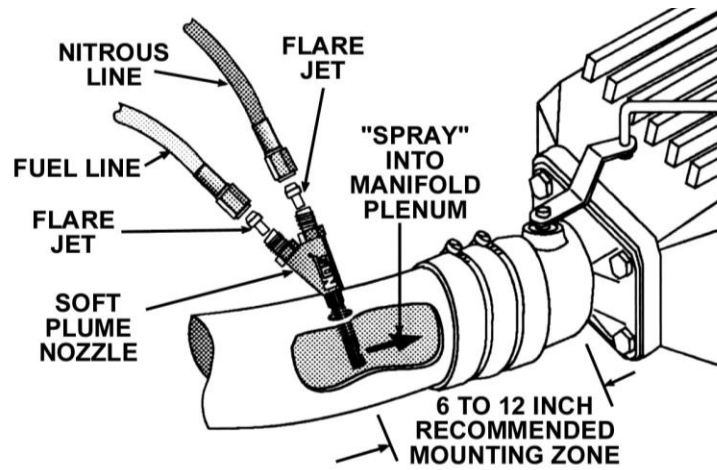

Figure 5 Soft Plume Nozzle Installation Cut-Away
**NOTE:** The recommended mounting location for the Soft Plume nozzle is in the air inlet duct, between the throttle body and the mass airflow sensor (in applications where a mass airflow sensor is used). In certain applications where the throttle body is an integrate part of the air cleaner housing, install the nozzle between the throttle body and the intake manifold. If possible, install the nozzle between 6 and 12 inches before the throttle body or any major turn in the air inlet duct. See Figure 5. If your vehicle does not facilitate the above installation requirements, call the NOS technical department to determine compatibility before continuing installation.
2. Select the desired mounting location for the Soft Plume Nozzle (5), taking into account the length of the nitrous and fuel supply hoses and the intended location of the solenoids. Take into account that the nozzle adapter (6) needs to be restrained during final installation, and accessibility of a tool is important. Make sure the nozzle and feed lines will not interfere with engine components or accessories and will not interfere with the hood when closed. The nozzle should not move from the perpendicular position in the air inlet duct due to strain induced by the nitrous and/or fuel supply hose.
- B. **Rubber/Hard Plastic Mounting Surface:** Drill a 7/16" hole perpendicular to the inlet duct centerline through the inlet duct. Insert the Soft Plume nozzle adapter (6) into the 7/16" hole with the head inside the duct. Use Loctite or a similar compound on the nozzle adapter threads and securely tighten the nozzle adapter nut (7) to the nozzle adapter (6).